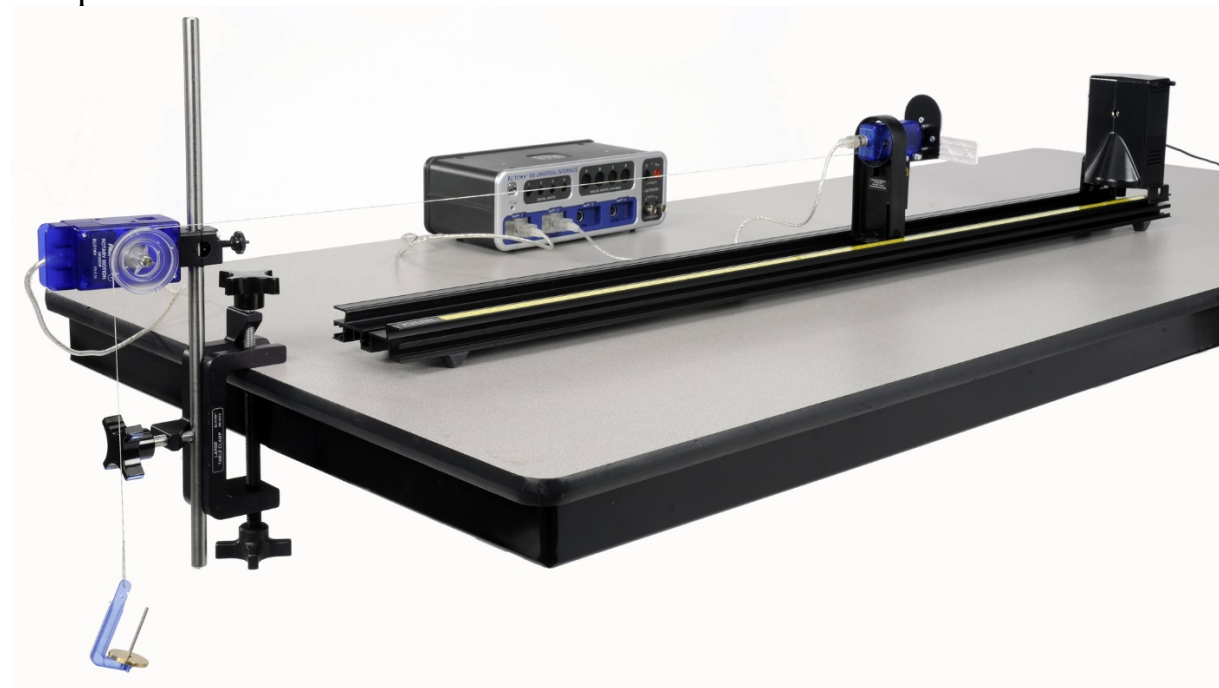
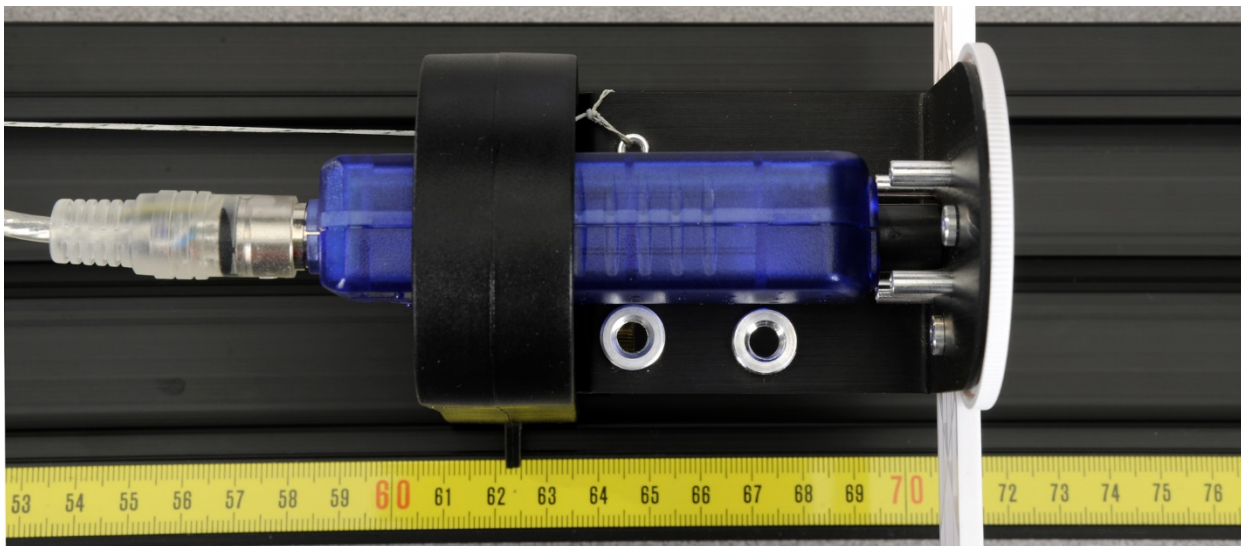

Figure 1: Complete Setup
Figure 2: Tying the String to the Light Bracket
1. Set up the equipment as shown in Figure 1. The thread is attached to the Aperture Bracket by tying the string through the hole as shown in Figure 2 and passes over the large pulley on the Rotary Motion Sensor to a hanging 10 g mass. The thread must be long enough so the white Aperture Disk can be 15 cm from the point source, but should not hit the floor when the Aperture Bracket is moved back as far as possible on the track. The thread should be horizontal and aligned parallel with the track but need not be centered on the Aperture Bracket. The Rotary Motion Sensor should be set so the thread is aligned with the pulley groove and does not pull sideways on the pulley.